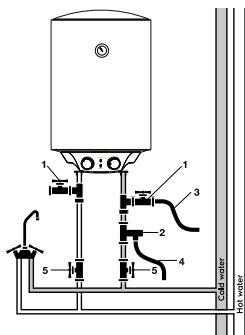

Fig. 5
- The pressure vent on the pressure relief valve (item 3 in Fig. 5) Install a drain tube and lead it to the sewer in case water is drained and excessive pressure is relieved*. The drain tube connected to the pressure outlet must point downward.
A tee can be provided for the drain with a valve between the valve and the sleeve (item 1, fig. 5).
- Connect the drain hose (item 3 in Fig. 5) to the shutoff valve.
The electric water heater must be installed on a solid vertical surface (wall). The V EEC series water heater can only be installed in a heated room. It is advisable to install the heater as close as possible to where the hot water is used, because the shorter the length of the pipes, the less heat is lost. As shown in Fig 5. When installing the heater close to a wall, leave the recommended clearance for maintenance. Do not install the heater on a horizontal surface and up against the floor. After selecting the mounting location, locate the two fastening bolts with hooks (depending on the specifications of the selected product). Make two holes in the wall to the required depth corresponding to the size of
If you want to implement a water supply system for several water points, use the connection method (see Fig. 5).